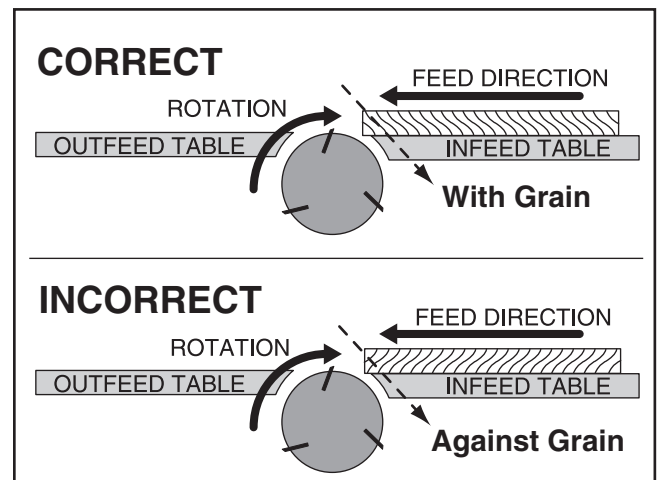

Figure 19. Correct and incorrect grain alignment to cutterhead.
- **Jointing and surface planing with the grain produces a better finish and is safer for the operator.** Cutting with the grain is described as feeding the stock on the jointer so the grain points down and toward you as viewed on the edge of the stock (**Figure 19**).